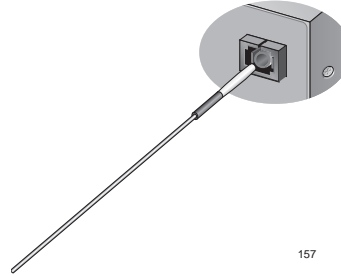

Figure 34. Cleaning a Recessed Ferrule
1. Insert the swab into the adapter as shown in Figure 34. Rub the ferrule tip with the swab.